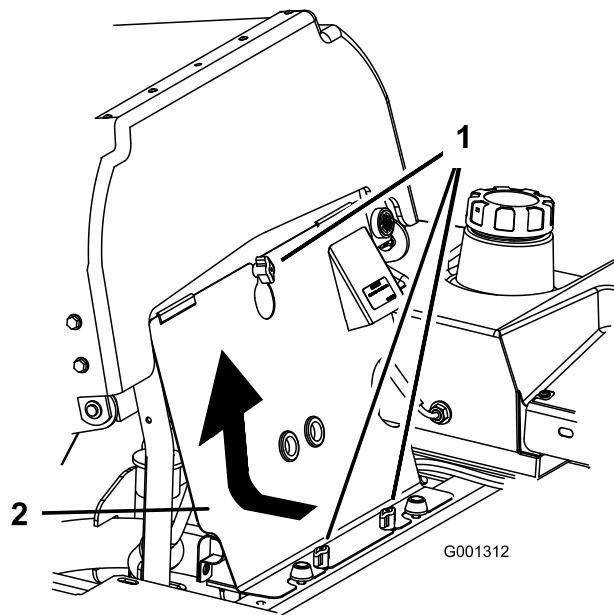

Figure 75
3. Loosen the front engine panel knobs and remove the panel (Figure 75).